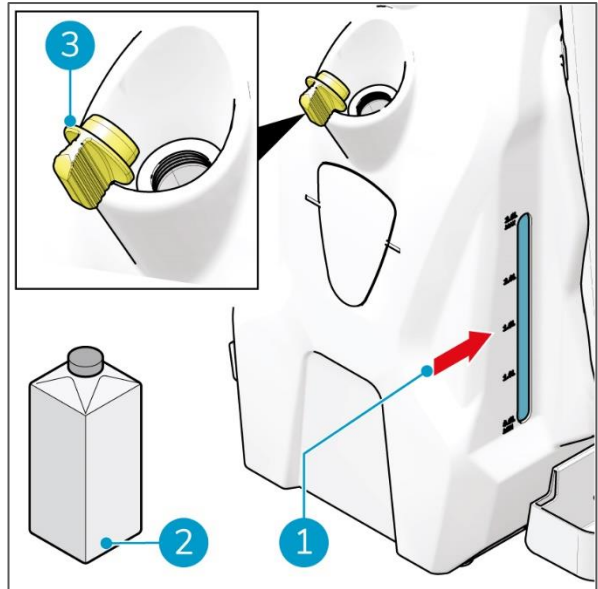

Figure 12
1. Remove the yellow stopper (Figure 12, pos 3).
2. Pour in the disinfectant (Figure 12, pos 2) while checking the fluid level (fig 12, pos 1).
3. Replace the yellow stopper (Figure 12, pos 3) and make sure it seals tight.
4. Remove the yellow stopper from the fluid tank (Figure 12, pos 2).
7. Replace the yellow stopper (Figure 12, pos 2).